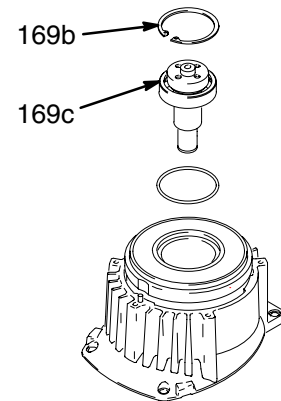
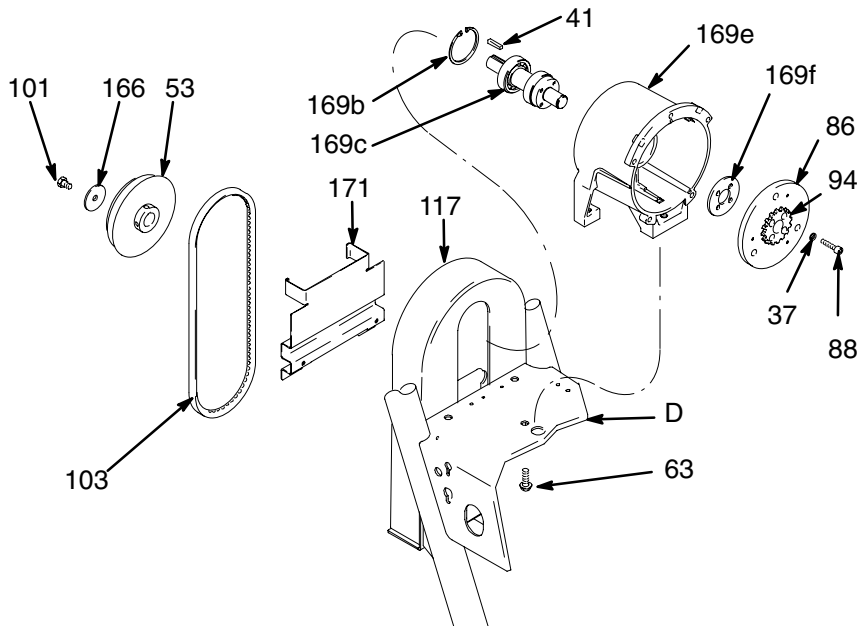

Fig. 7 8703B
Fig. 9
7. Fig. 7. Remove retaining ring (169b).
9. Fig. 9. Remove belt guide bracket (171), belt guard (117) and vee belt (103).
10. Hold pulley (53) and remove four screws (88) and washers (37) from hub (94). Remove armature (86) and spacer (169f).
11. **Engine Detail**, page 20. Remove screw (101) and washer (166) from engine drive shaft. Remove pulley (53) and motor shaft sleeve (170). Remove pulley and key (41).
12. Fig. 9. Remove three screws (63) from beneath mounting plate (D).
13. Lift off clutch housing (169).
1. Fig. 9. Install jack shaft assembly (169c). Install retaining ring (169b).
5. Fig. 9. Place spacer (169f) and armature (94, 86) on jack shaft assembly (169c).
6. Install three screws (63) through mounting plate (D) and into clutch housing (169).
7. Apply Loctite® to screw (101). Install screw, washer (166), key (41) and pulley (53) in end of jack shaft assembly (169c). End of jackshaft (169c) must be 0.090 in. below flush with end of bushing.
8. Hold pulley (53) and install four screws (88) and washers (37) in hub (94). Torque to 125 in-lb (14 N·m).
9. Install belt guard (117), belt guide bracket (171) and vee belt (103).
10. Fig. 7. Tap pinion shaft (169c) in with plastic mallet.